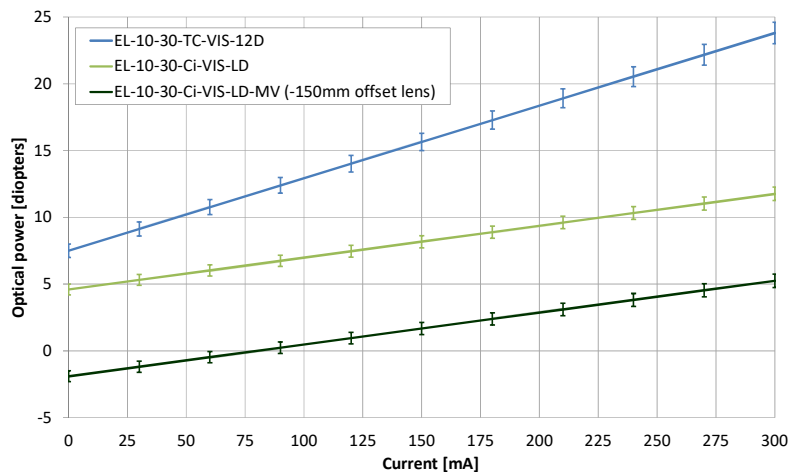

Figure 6: Relation of optical power to current for the most common EL-10-30 lenses at 30°C. The error bars show the standard deviation from lens to lens.
The optical power of the EL-10-30 increases with current, shown in Figure 6. The starting point at zero current is set during production and can be varied from lens to lens, whereas the maximal value is 500 mm. The slope of the optical power is influenced by the mechanical properties of the membrane, which can also be varied on request to achieve different ranges. In open loop systems, a calibration of the lens with look-up tables is recommended. The focal length also depends on temperature, see paragraph *temperature effects*.
0.1  $\lambda$  for the C-mount LP-version, 0.2  $\lambda$  for the C-mount MV-version and 0.4  $\lambda$  for the compact version of the EL-10-30. The difference between the different variations of the EL-10-30 lenses is the design of the membrane. The stronger membrane of the EL-10-30-C (with the LP version having the strongest membrane) reduces the gravity effect, however at the expense of focal tuning range (4 diopters for the EL-10-30-C-VIS-LD-LP, 7.5 diopters for the EL-10-30-C-VIS-LD and 14 diopters for the EL-10-30-VIS-LD, see Figure 6).